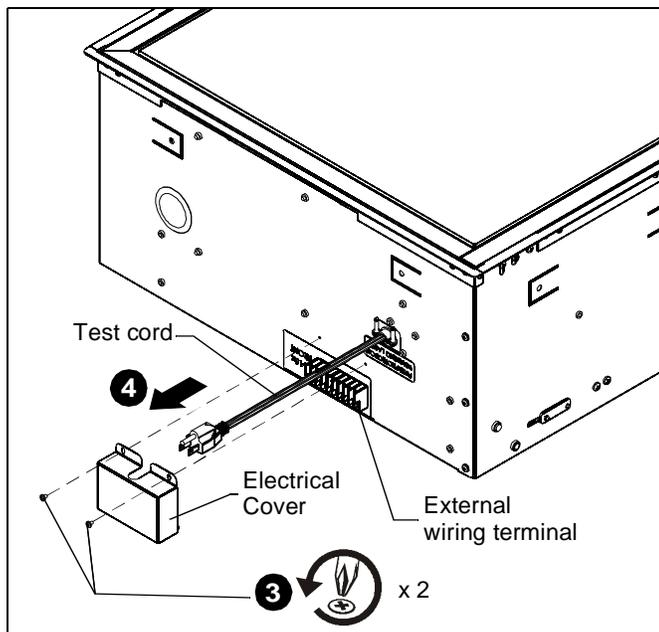
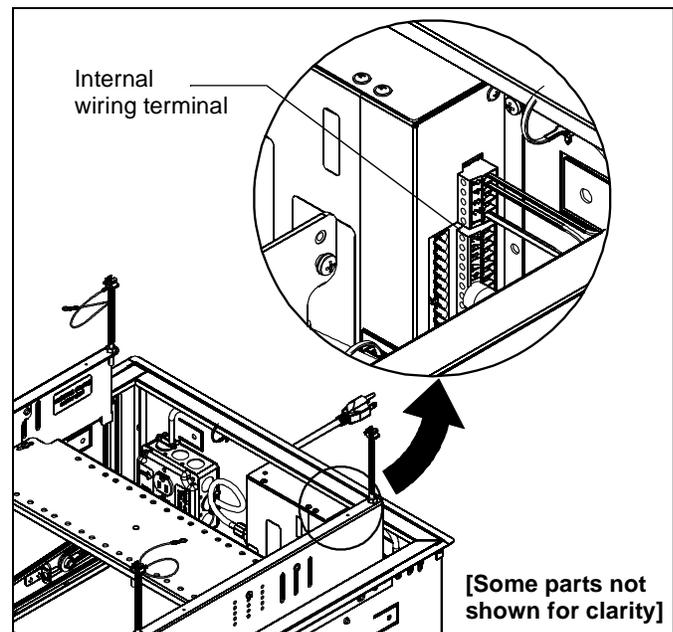

Figure 2
Figure 4
3. Remove and save two screws holding side electrical cover in place. (See Figure 2)
4. Remove electrical cover. (See Figure 2)
6. Plug in the SL151 test cord. (See Figure 2)
**NOTE:** (See Figure 2) for location of external wiring terminal. (See Figure 4) for location of internal wiring terminal.